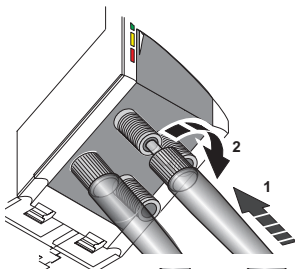

Figure 16 F-SMA connection
- The connectors are secured on the device by manually tightening the screw collar (see 2 in Figure 16).